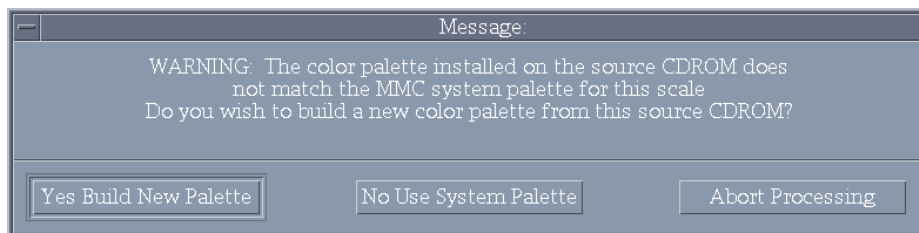

Fig. C1 – Color palette warning message
- f. If the CD-ROM contains a new color palette file, a warning dialog box appears (Fig. C1) stating that the color palette installed on the CD-ROM does not match the MMC system palette. Click on Yes Build New Palette.